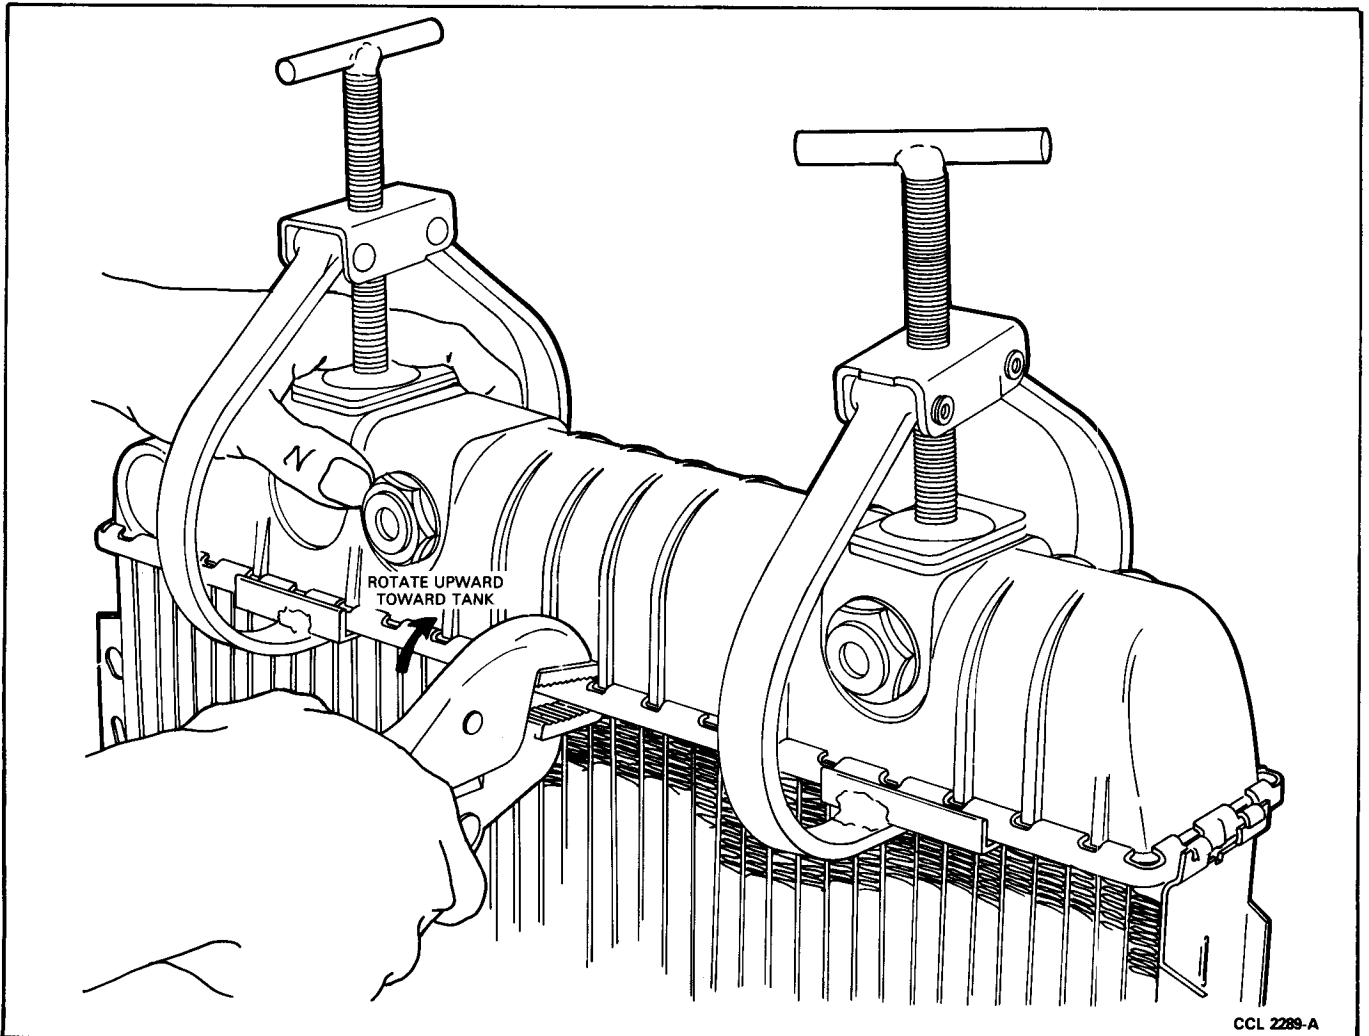

FIG. 14 Header Tabs Installation
9. Squeeze the header tabs down against the lip of the tank base with the locking type pliers while rotating the pliers toward the tank (Fig. 14).